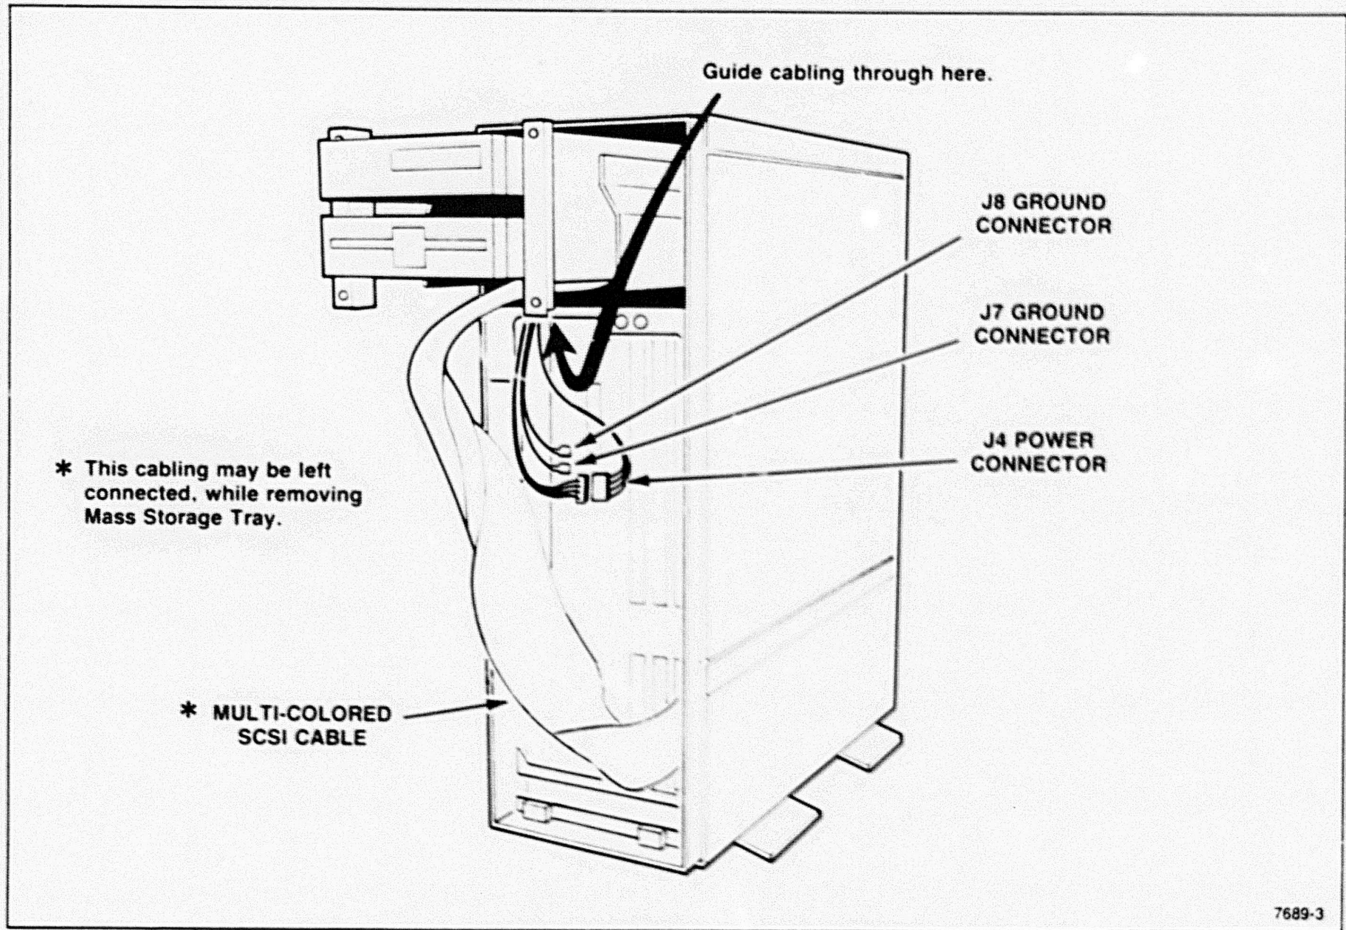

Figure 5. Mass Storage Subassembly Cables.
3. Pull the subassembly tray part way out of the frame, until the fan is exposed; see **Figure 5**.